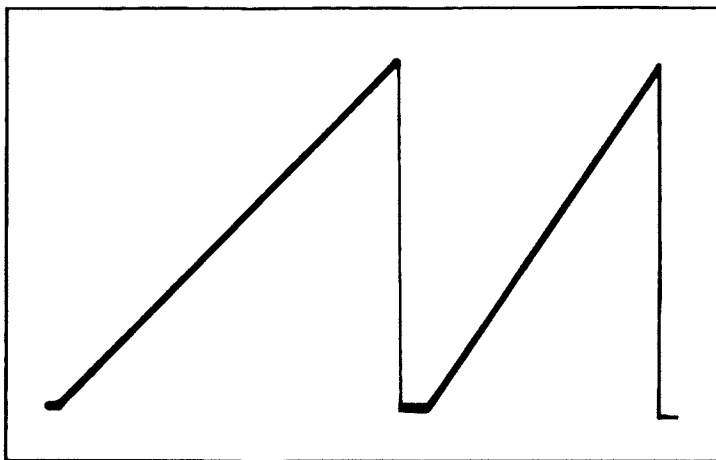

Figure 5-41. 0 to +10 Volt Sweep Ramp at A16TP3
5. Set Oscilloscope Trigger Level and Persistence as necessary to display full sweep ramp, starting at a convenient point on graticule. Adjust A16R67 SWEEP TIME adjustment for a ramp of 500 msec duration. Refer to Figure 5-41 for typical display.